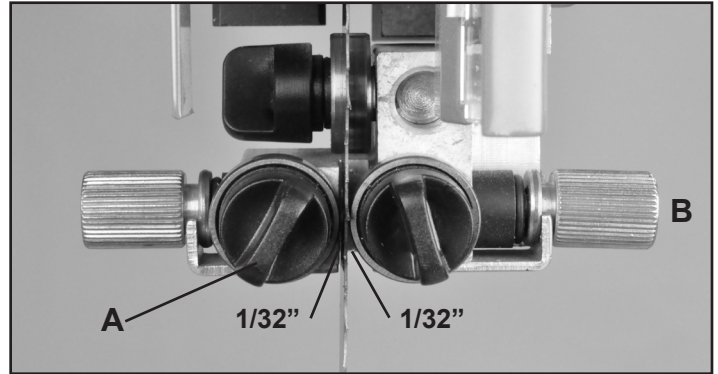

FIGURE 22
1. Position the right and left guides relatively close to the blade. First, loosen the front Locking Knobs. (A, Fig 22) To move the guides towards or away from the blade, turn the knurled, micro-adjusting Knobs. (B, Fig 22)
3. Set both side bearing guides to within 1/32" of the saw blade - about the same thickness of a business card (Fig. 22). Do not set the bearing guides too close, or touching the sides of the blade, as this will adversely affect the life of the blade and bearings.